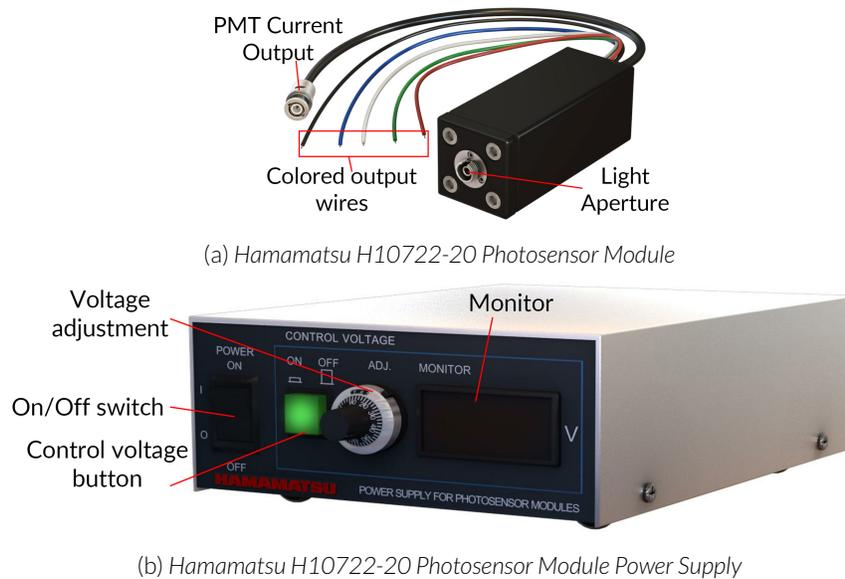

Figure 3.5: Hamamatsu H10722-20 Photosensor Module
1. Connect the Hamamatsu H10722-20 photosensor modules (PMTs) to the power supply (Fig. 3.5). Each **Colored output wire** (white, black, green, blue and red) corresponds to the same color connector at rear of the power supply. If two photosensor modules are connected to the same power supply, the latter will apply the same voltage simultaneously on both modules.